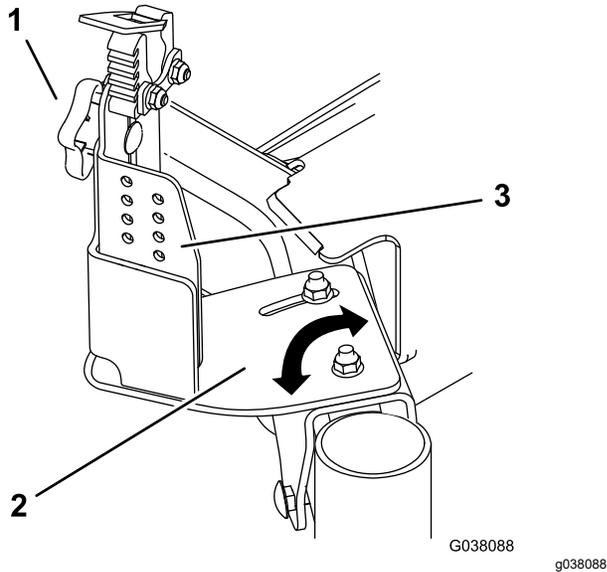

Figure 9
2. Loosen the bolts securing the mount plate to the channel bracket in the front mount assembly (Figure 9).
4. Loosen the knob and raise or lower the trimmer plate as necessary (Figure 9). Tighten the knob.